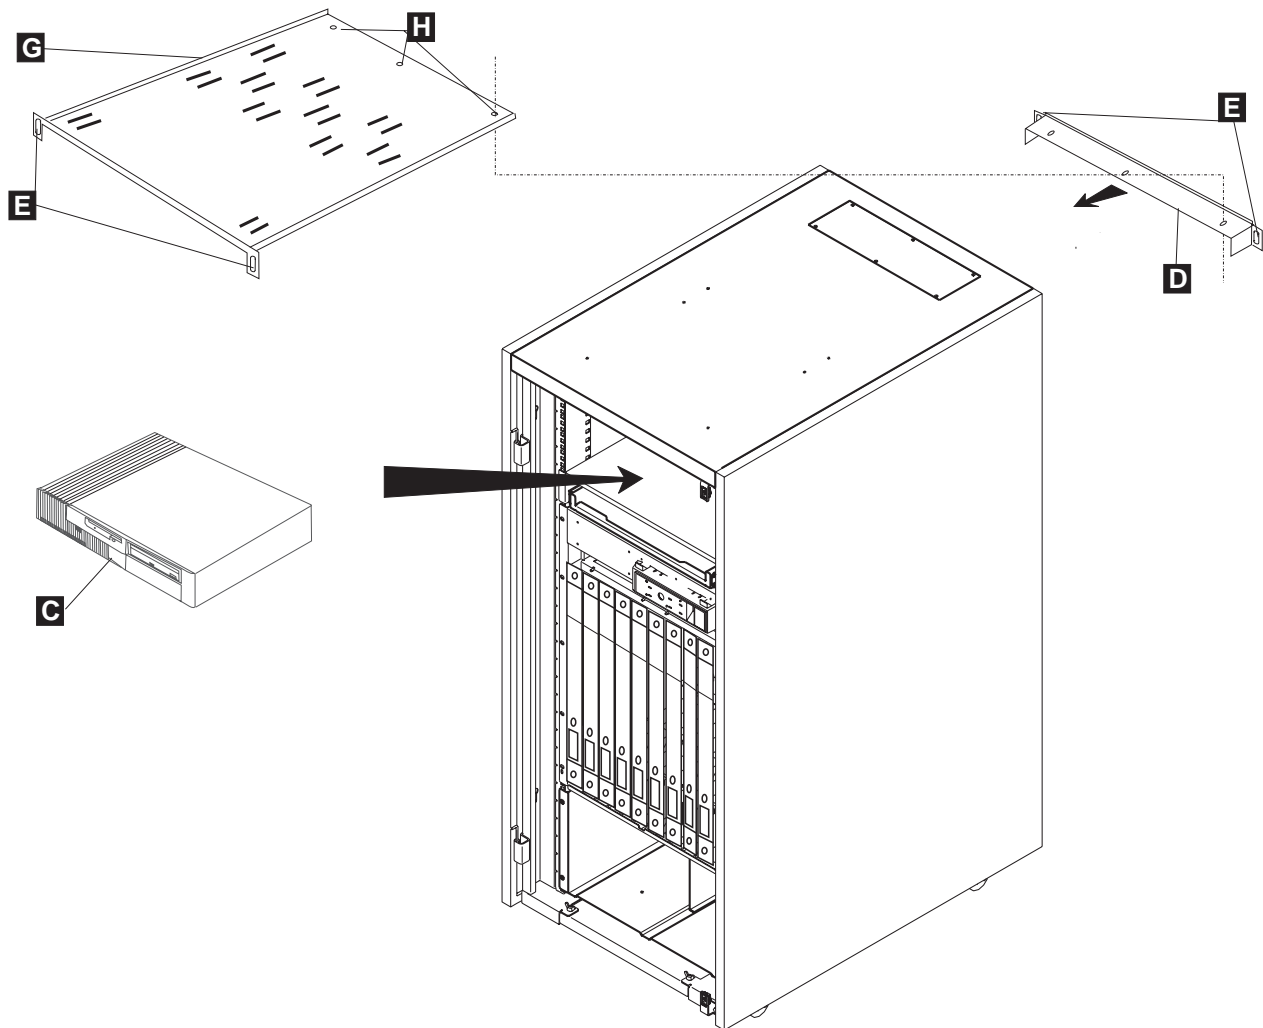

Figure 1-25. Upper Plate Installation in 29U Rack
4. ____ From the front of the rack, install the upper plate **G** (PN 42L2851) into the rack (see Figure 1-25 on page 1-20). The rear part of the upper plate must be on the top of the support **D** previously installed.
5. ____ Secure the upper plate **G** on the front of the rack with screws **E** (PN 43G3084), and on the support **D** with 8-mm M4 screws **H** (see Figure 1-25 on page 1-20).